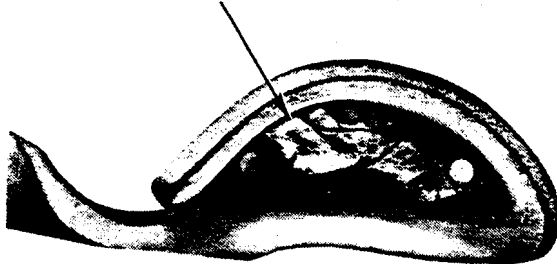

Figure 2
- 1. Examine crimp joint for evidence of a tinned wire bundle as illustrated in figure 2.